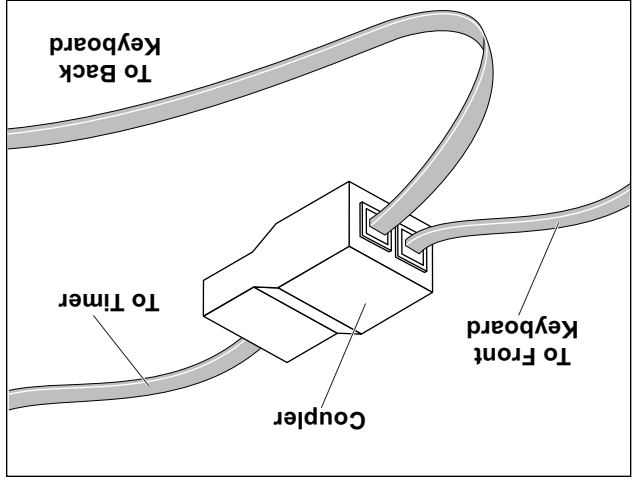

Figure 19. Keyboard Cable Connection
4. Label and disconnect the cable from the coupler, Figure 19.